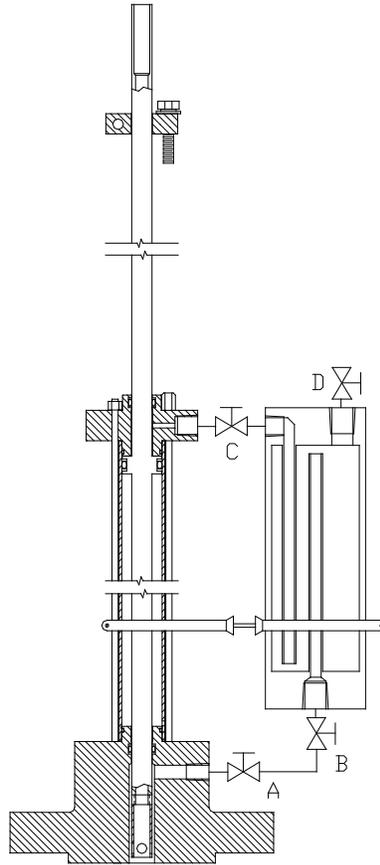

FIGURE 1
- 2.1.7 Close valve “D”, open valves “A” and “B” (see Figure 1) and allow pipeline pressure to enter the oil reservoir.
2.2.2 Open valves “A, B, & C” (see Figure 1).
3.2.3 Disconnect the tubing between valves “A” and “B” (see Figure 1).